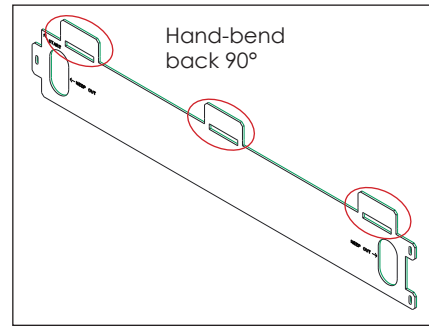

Figure 1: Hand-Bend Bracket Tabs
- Hand-bend the top three bracket tabs on the jigs (if not already bent). Refer to **Figure 1**.